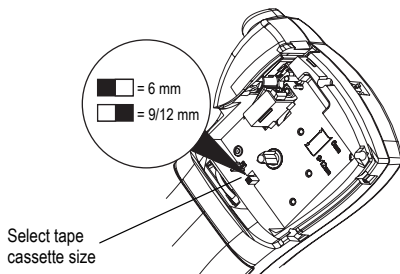

Figure 4
2. Set the cassette switch for the size of the label cassette that you are inserting. See Figure 4. A notch in the cassette fits over the switch when the cassette is in the correct position.